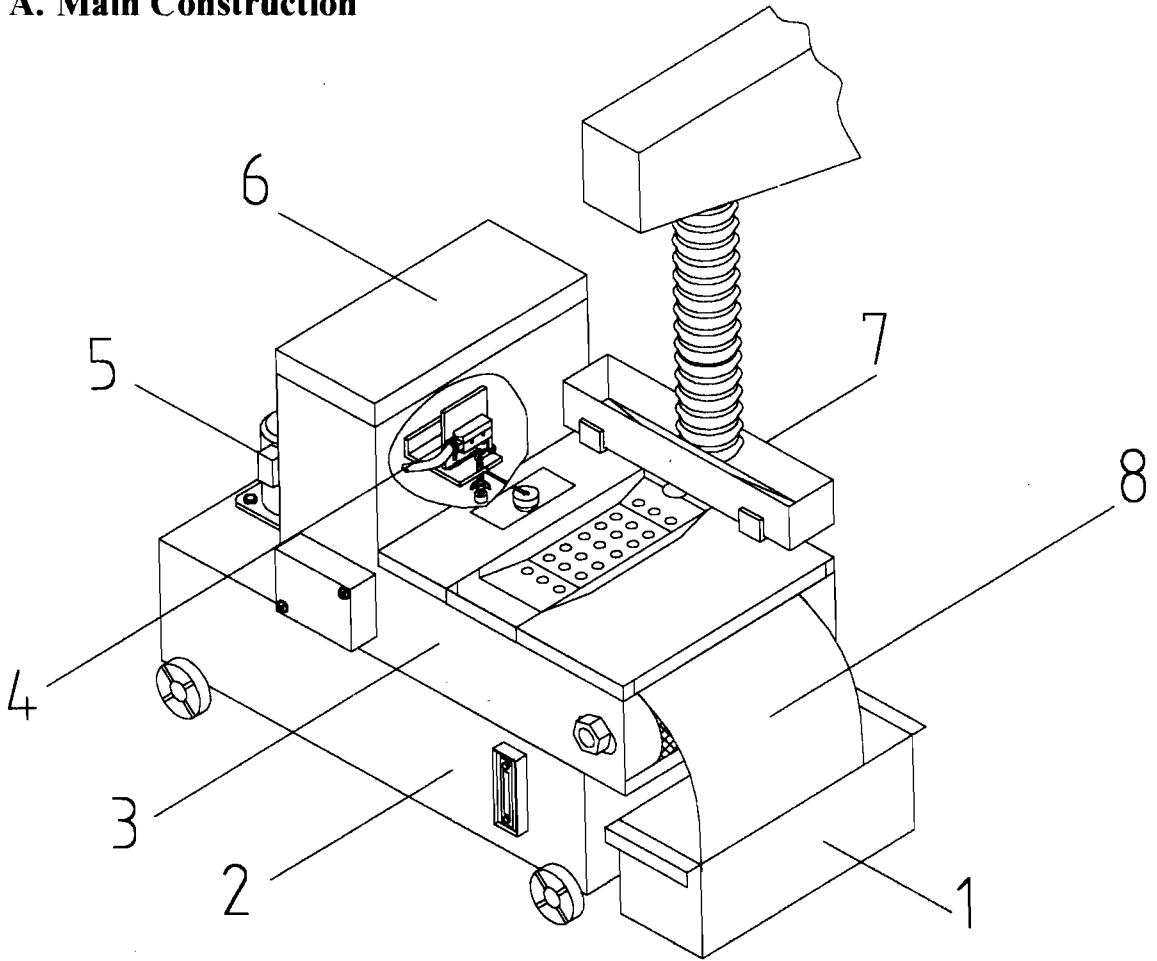

Fig. 1
3. Fill with coolant mixture at the coolant return pipe (refer to fig. 1). The maximum capacity of the tank is 13 gallons. A transparent, anti-high pressure, soluble type coolant is recommended.
4. Connect the coolant drain hose from machine to item 5 (fig 1).
5. Please connect the dust inlet hose from the dust connect of the wheel guard to the inlet pipe (item 6) on the system.